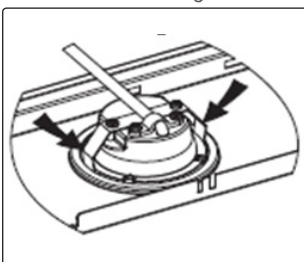
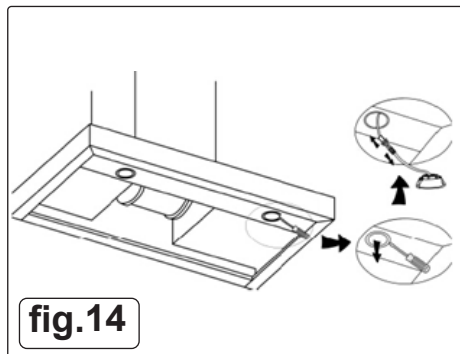

fig.13
fig.14
- Use a tool/ hand to press the spring clip of both sides of **LED** light to the inside, until the light is pressed out, fig.13. Then slightly pull the light connecting wire out, and dismantle the terminal of the light connecting wire, fig.14.